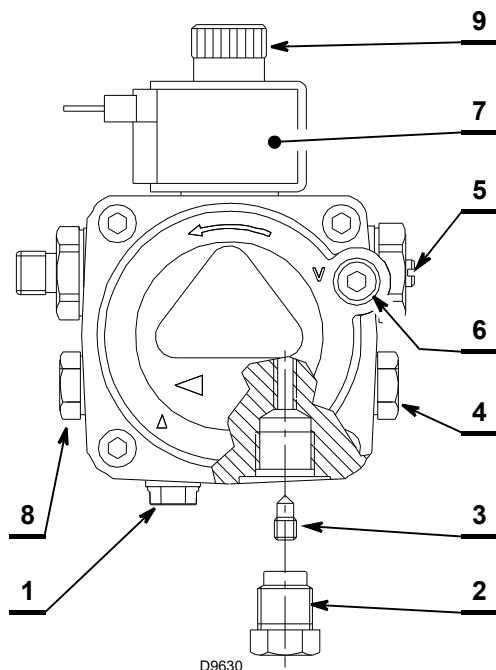

Fig. 17
- If necessary, recalibrate the pressure by acting on the screw 5) Fig. 17.